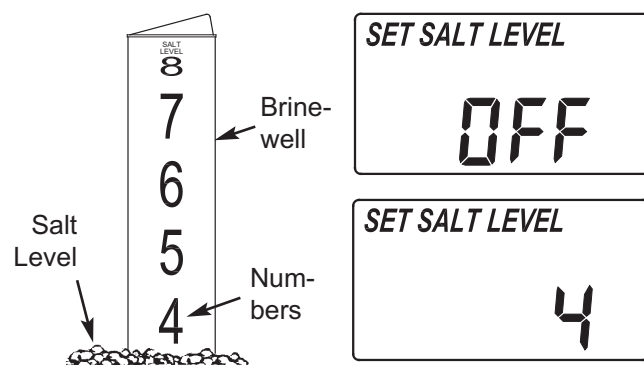

FIG. 19
2. The salt level scale, on the brinewell inside the tank, has numbers from 0 to 8 (See Fig. 19). Observe the highest number the leveled salt is at, or closest to.